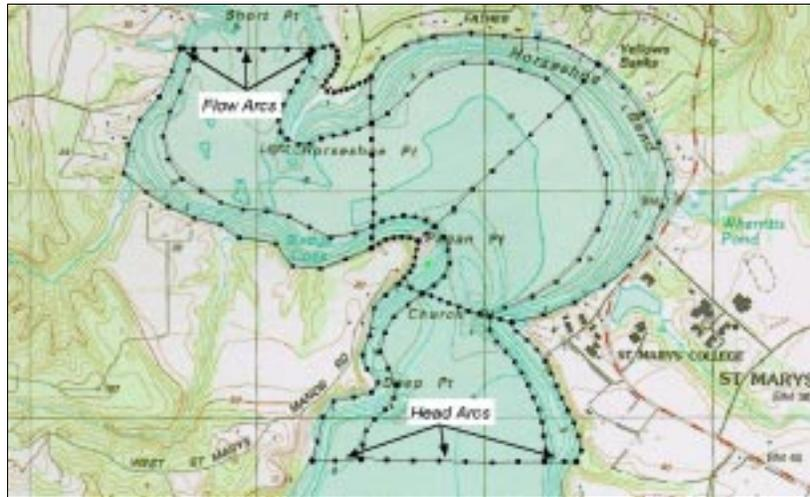

Figure 2-11 The arc groups to create.
2. Holding the *SHIFT* key, select the three arcs that make up the flow cross section, labeled as *Flow Arcs* in Figure 2-11.
4. Now, select the three arcs that make up the head cross section, labeled as *Head Arcs* in Figure 2-11.